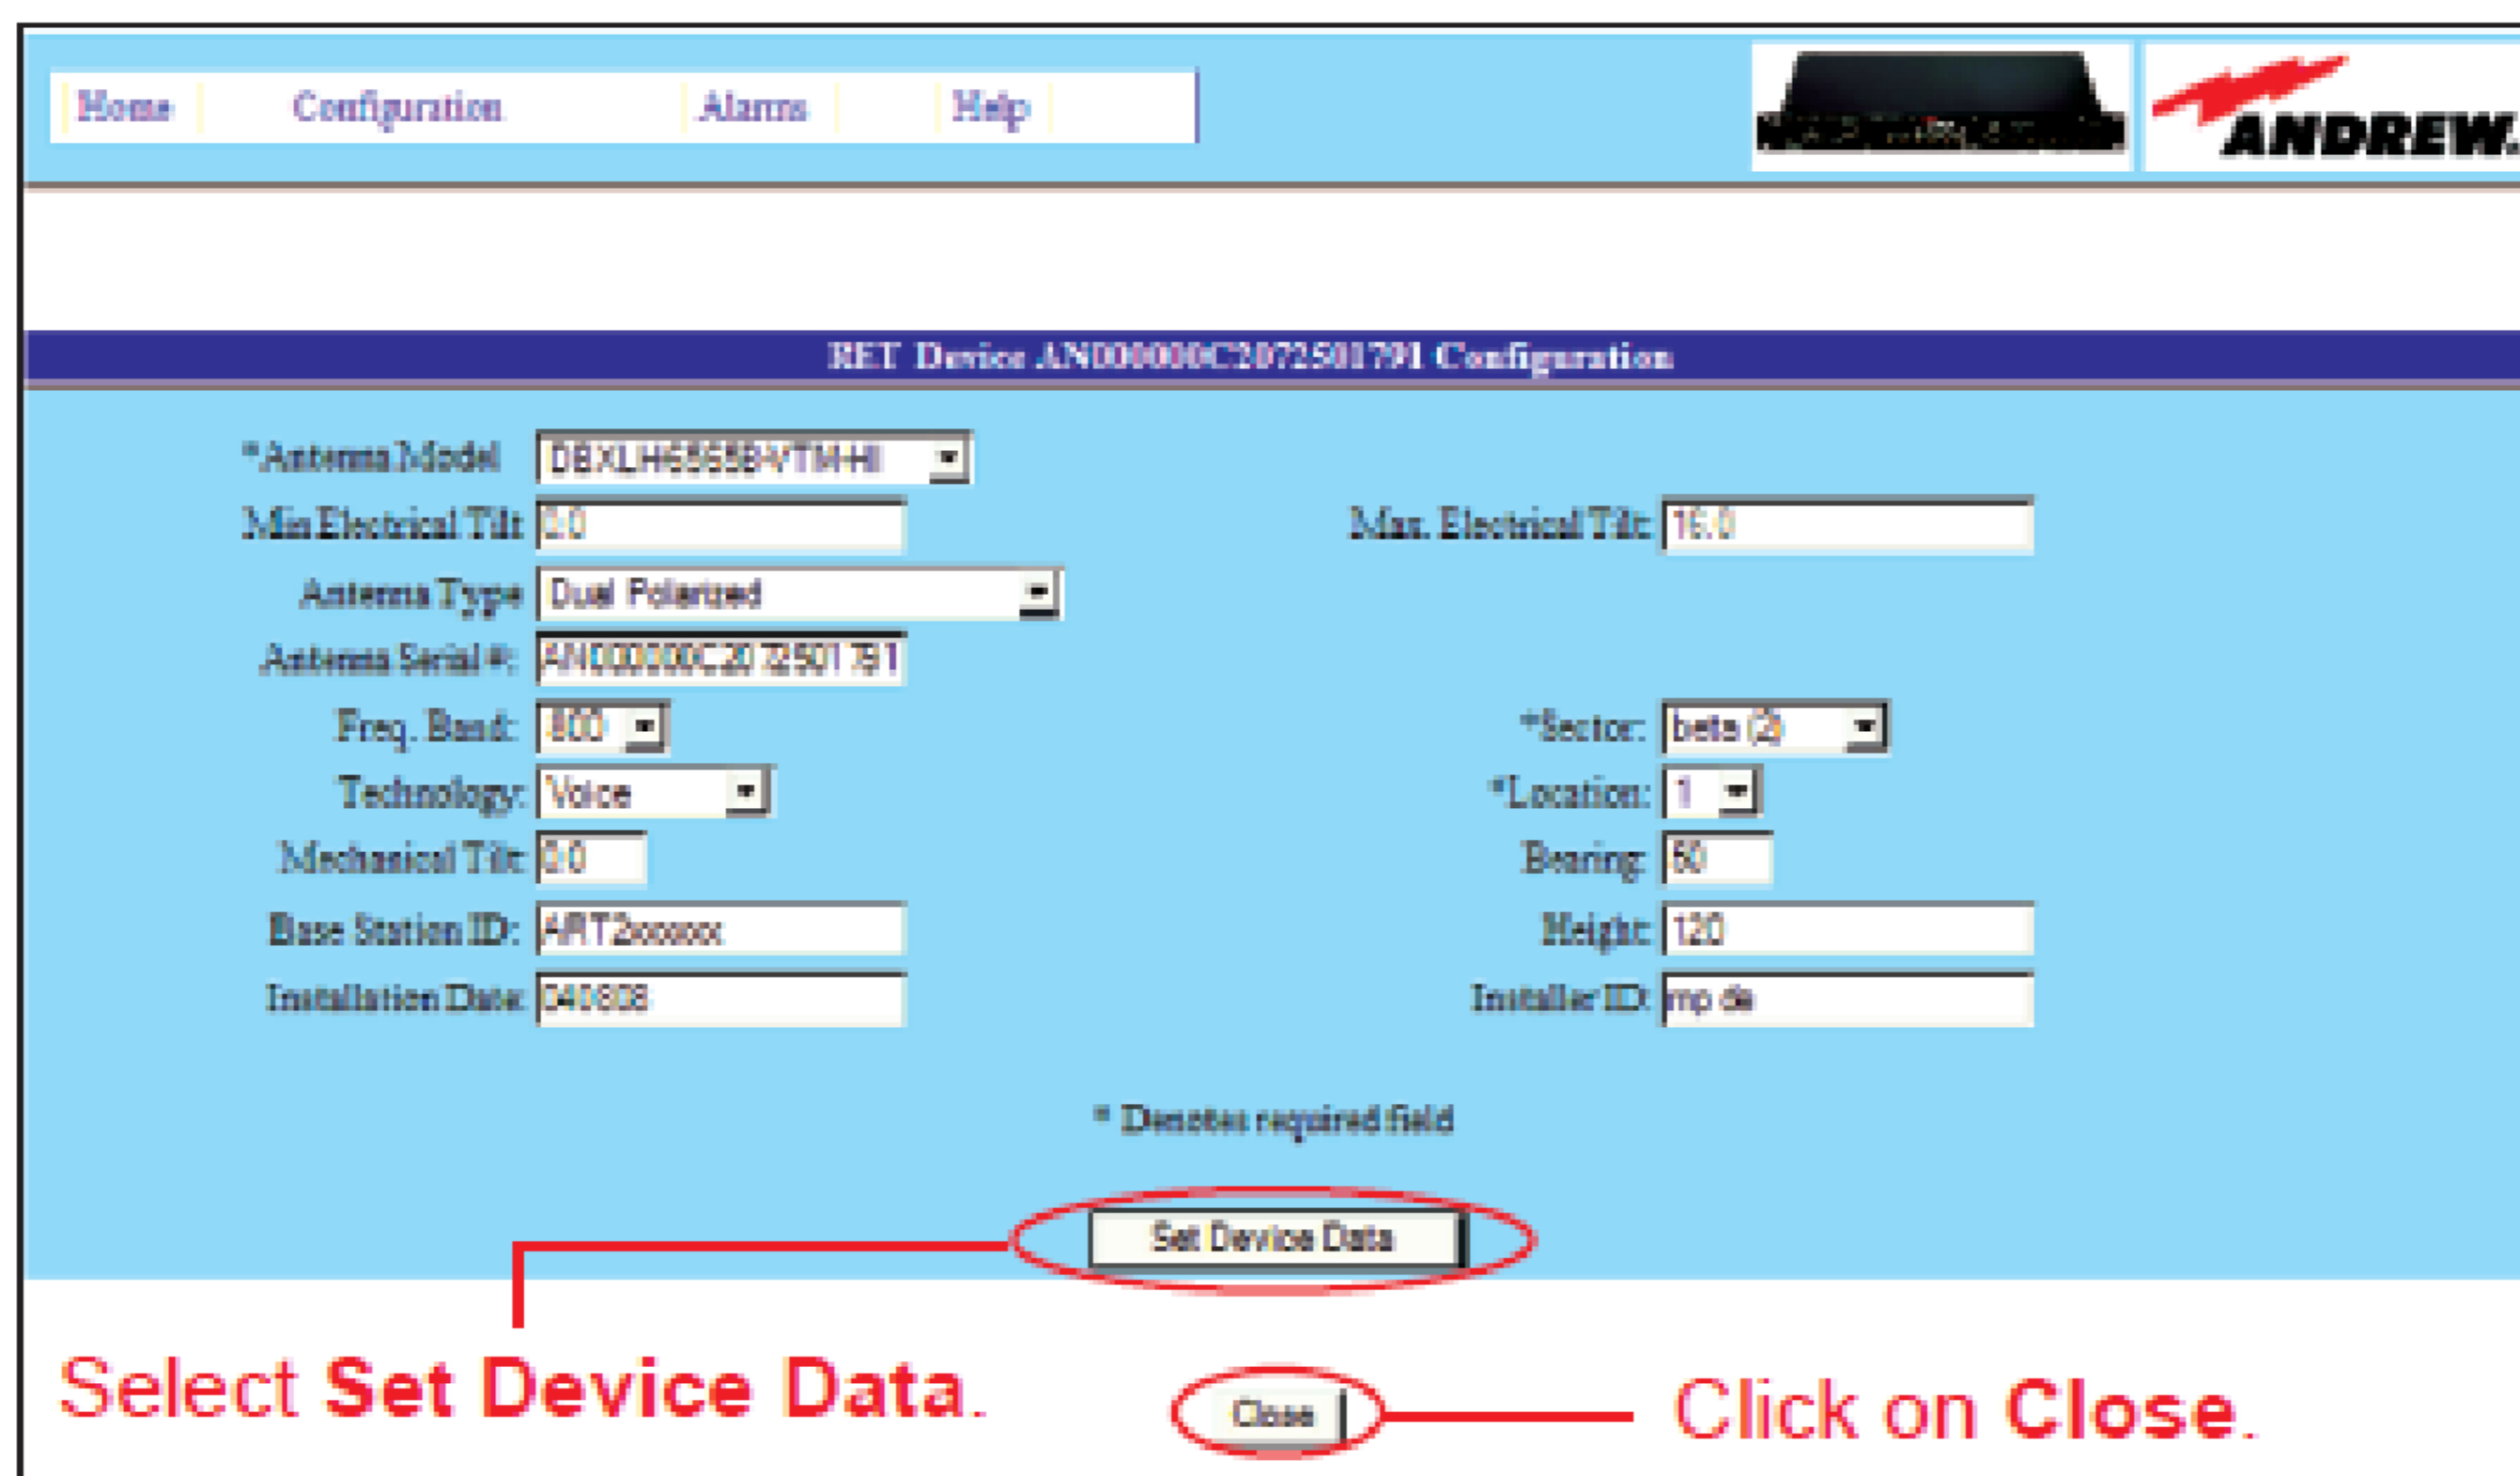

Figure 3-2. Device Configuration.
- After entering data, click on **Set Device Data** (Figure 3-2).